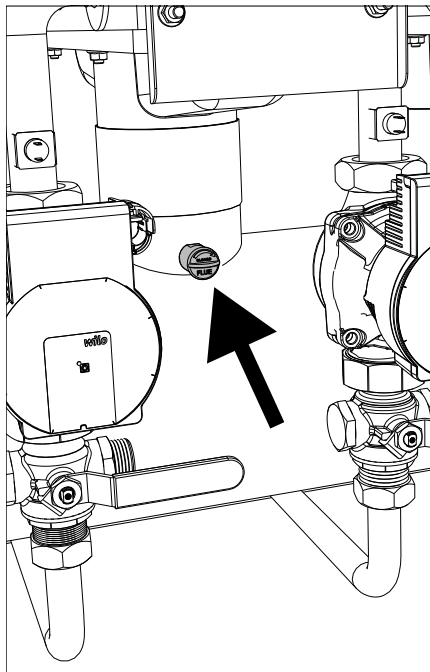

fig. 80- Single module fumes outlet
The sampling of combustion fumes must be done by inserting the analyzer probe into the fumes outlet of the single module (see fig. 80).
- Insert a combustion analysis instrument in the fumes outlet (see fig. 80).